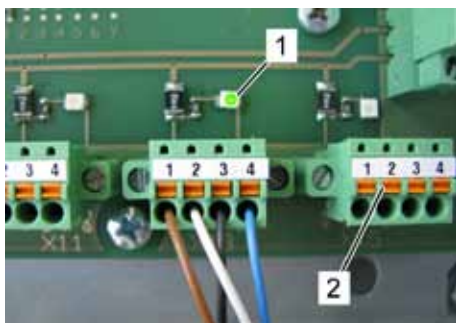

Fig. 110: Terminal box
1. Open the Terminal box and check all connected terminals for the respective LED (Fig. 110/1) being on.
2. If a LED is off remove the respective connector (Fig. 110/2).
Ä The LED (Fig. 110/1) must be on.